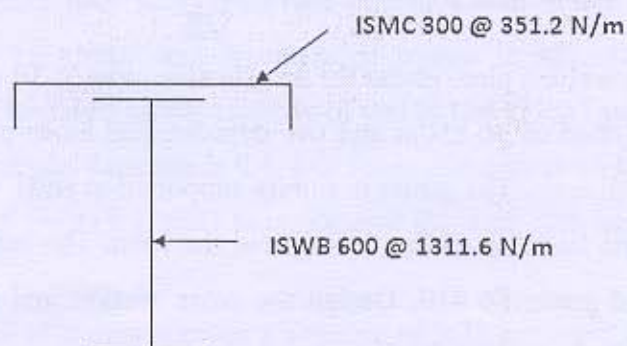

Figure: 2
- (b) A gantry girder section is shown in **Figure 2**. The girder is subjected to following [09]